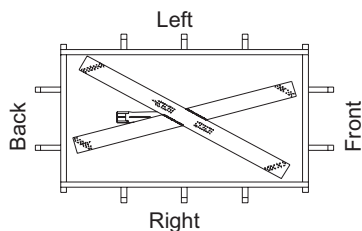

Figure 47 - Burner and Grate (Top View)
5. Figure 47 shows the top view of burner and grate.